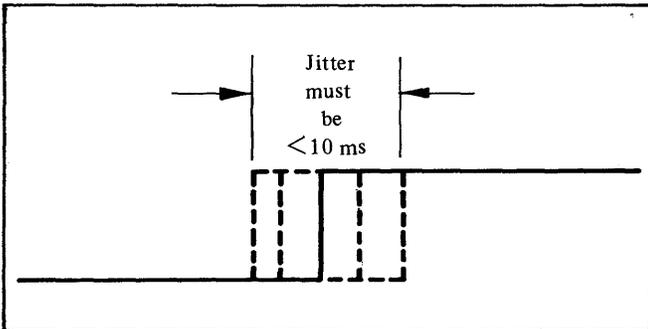

Figure 4-22. Long Servo Gate Jitter
11. Obtain the trace shown in figure 4-22. Move the positive-going edge to coincide with the center graticule. Switch in the X10 magnifier.